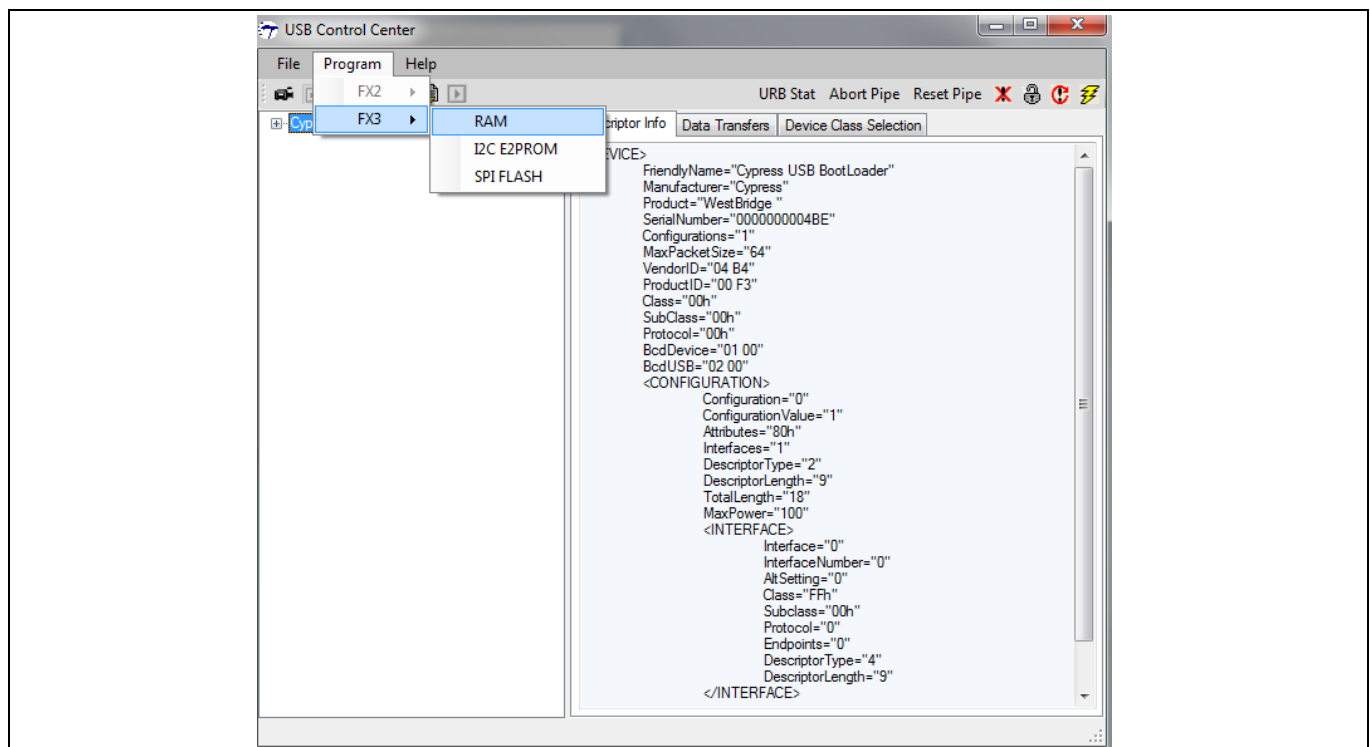

Figure 17 Select the device from the control center
4. In the Control Center, select the FX3 device by choosing **Program > FX3 > RAM**, as shown in Figure 17.